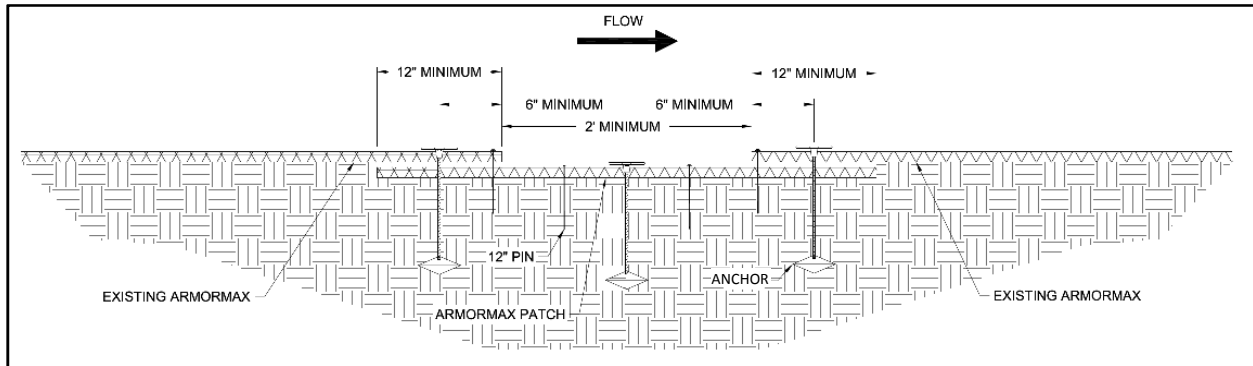
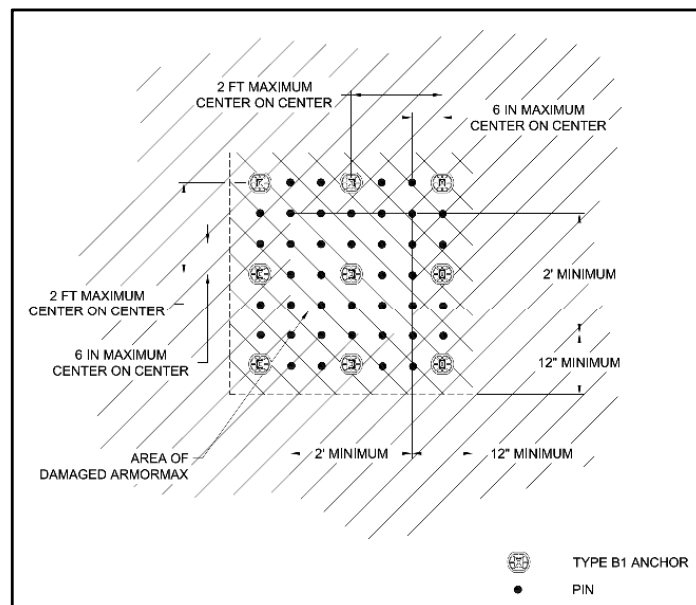

Figure 30: ARMORMAX Patch Cross Section
Figure 31: ARMORMAX Patch Plan View
- A. *Acceptable (A)* - The rated area is in satisfactory, acceptable condition, and will function as designed and intended during the rain event. ARMORMAX has no exposed edges, is installed tightly by maintaining direct contact to the channel surface with no rilling beneath, and has over 90% vegetation cover. There is no noticeable damage present.
- B. *Minimally Acceptable (M)* - The rated area has a minor deficiency that needs to be corrected. The minor deficiency will not seriously impair the functioning of the area during the next rain event; however, the overall reliability of the project will be lowered because of the minor deficiency. ARMORMAX has 75% vegetation cover with un-vegetated patches as large as one square yard. Edges of ARMORMAX are exposed with noticeable damage. Minimal erosion has occurred underneath ARMORMAX.
- C. *Unacceptable (U)* - The rated area is unsatisfactory. The deficiency is so serious that the area will not adequately function in the next rain event. ARMORMAX has been physically torn, ripped, or lifted from the channel surface. Less than 75% vegetation cover is present with un-vegetated patches being greater than 1 square yard, and there is evidence that erosion is occurring beneath ARMORMAX.
3. To repair ARMORMAX, cut out and remove damaged areas in a square configuration a minimum size of 2 ft by 2 ft. Remove all vegetation and debris atop of ARMORMAX. Loosen the top 1 to 2 in of soil in the patch area then seed. The subgrade of area to be patched shall be prepared to be smooth and uniform and transition smoothly into the in-situ area. Cut a square ARMORMAX patch a minimum of 12 in greater than the damaged area for all four sides of the patch. Overlap the patch area in all directions a minimum of 12 in. The patch overlaps shall be tucked under the existing damaged ARMORMAX material (Figure 30 and Figure 31).